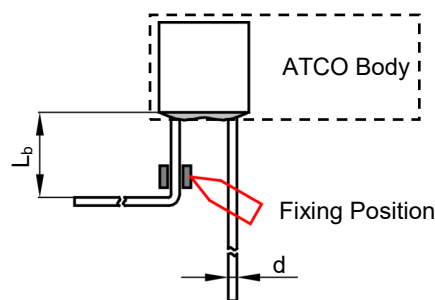

FIGURE NB-2
2. When bending leads, please use pincher or similar tools to fix the product as shown in Fig.NB-2, to avoid damaging the product.